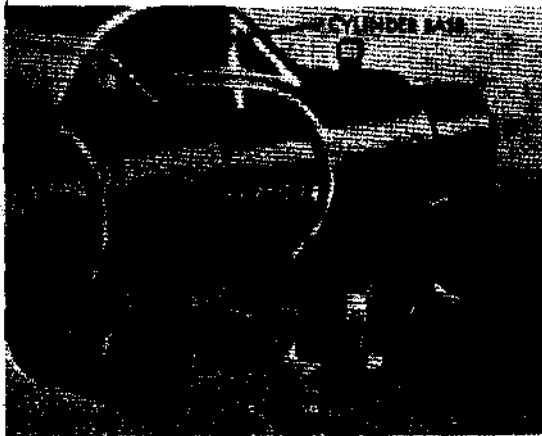

Figure 106. Removing bypass plunger plug and washer
(5) Remove acorn nut, jam nut, and copper washer from plug opposite cylinder head end. Remove bypass plunger plug (fig. 106) and washer from cylinder base.
- (b) Position washer on bypass plunger plug and install plug in cylinder base (fig. 106). Install copper washer, jam nut, and acorn nut on plug.